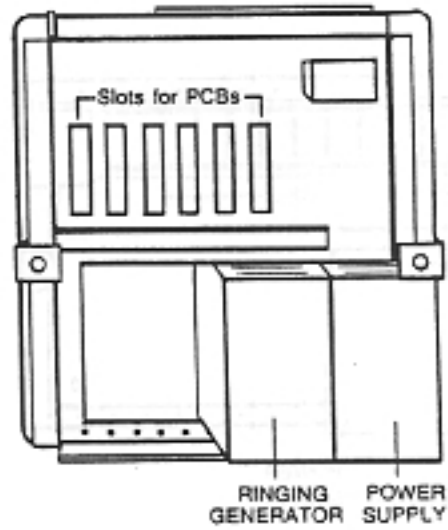
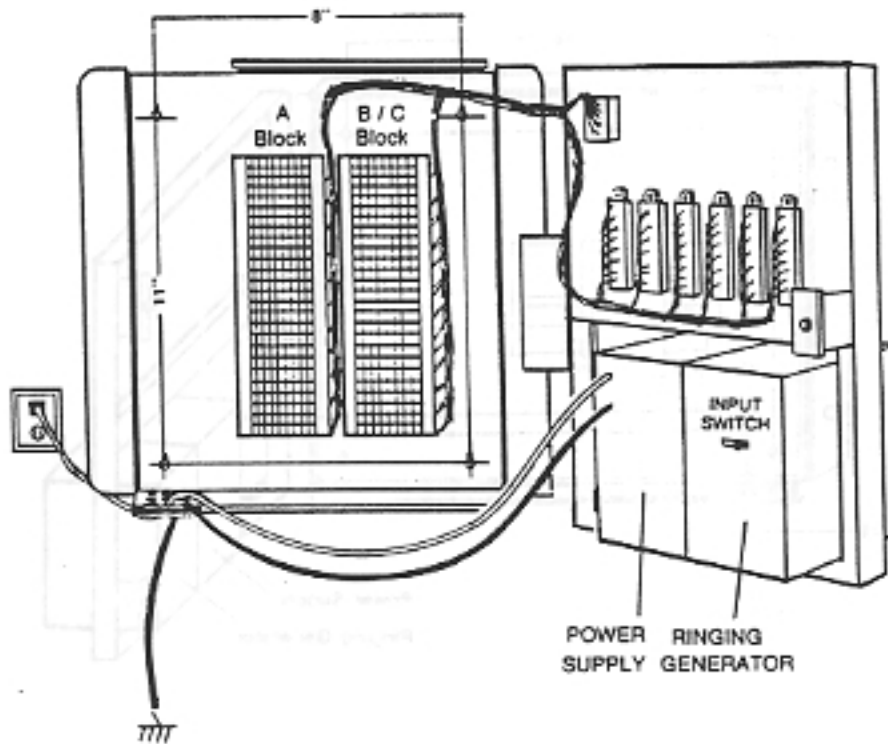

Figure 1 6 CARD KSU OUTSIDE VIEW
Figure 2 6 CARD KSU WITH HINGED SHELF OPENED
**1.04** The 6 Card KSU is designed for wall mounting and holds a maximum of 6 B-OPX-A PCBs. These boards are inserted into the hinged shell or rack ( Figure 1 ). The 48V Power Supply and Ringing Generator are mounted inside the KSU cabinet ( Figure 2 ). The shell containing the PCBs is hinged so that it can be opened to provide access to two 50-pin connecting blocks. One block is split.